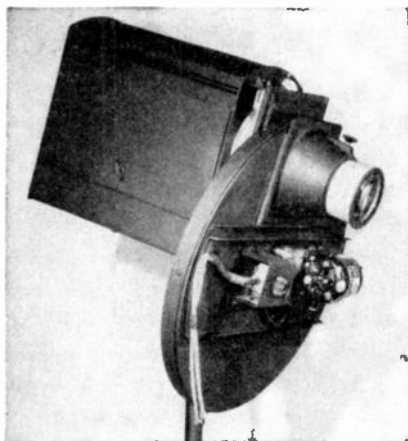

Fig. 12-14. Century effects machine. Circular effects slide rotates by motor drive. Projector will take 1,500- to 2,000-watt bulb.
Effects projectors have been familiar equipment for many years in the theatre (Fig. 12-14). A large circular slide is rotated through the projection opening, and a 2,000- or 3,000-watt spotlight provides the light source. Stage-lighting companies like Kliegl and Century in New York keep libraries of these effect slides for rental or purchase. It is possible to get anything from fleecy clouds to fire, smoke, and demons ascending out of hell (an effect which the Roxy Theatre is fond of using every year for their Halloween show). The slides are circular (about 2 feet in diameter), but the projector aperture is the standard $3\frac{1}{4}$ - by 4-inch lantern-slide size. The slides are disks of mica, to withstand the heat, and designs are hand-painted on them in the type of paint that is used for frosting light globes. The turning mechanism, whether motor or clockwork, can be set for a wide range of speeds. Effect projectors are used very often in the New York stations. Most cloud effects are produced with these machines, either by rear or by front projection. They are superior to film in several respects: (1) projection is continuous